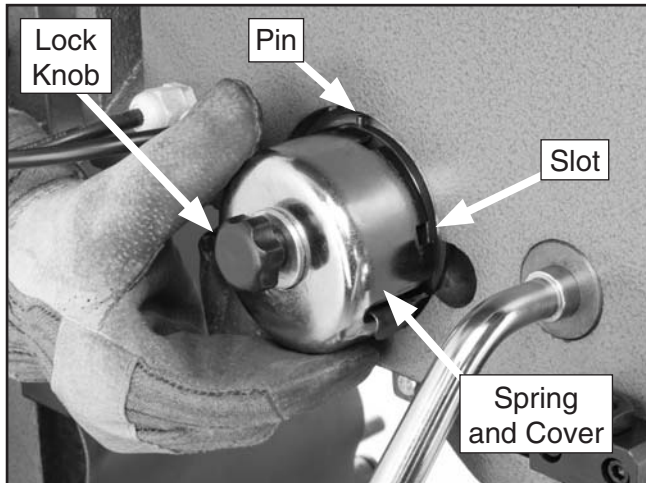

Figure 14. Spindle return spring adjustment.
2. While tightly holding the spring cover against the side of the headstock, loosen the lock knob a few turns (**Figure 14**).